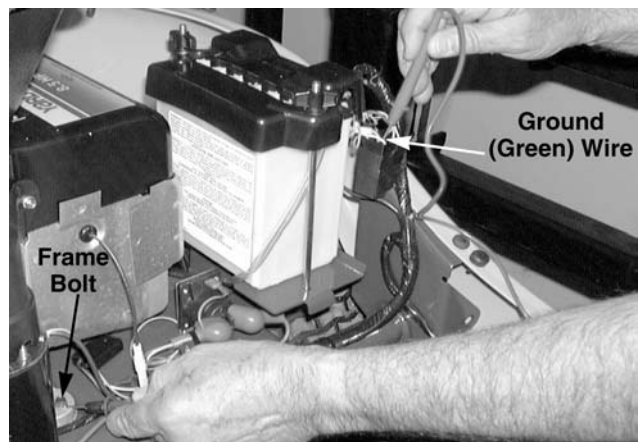

**Figure 8-93.**
–There will be **CONTINUITY**. See Figure 8-93.